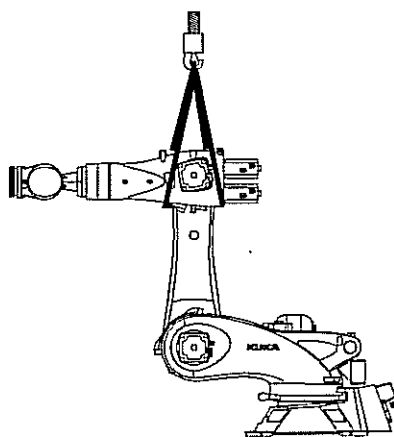

Fig. 12-20: Securing the link arm
8. Secure link arm using a rope sling and crane (>>> Fig. 12-20).